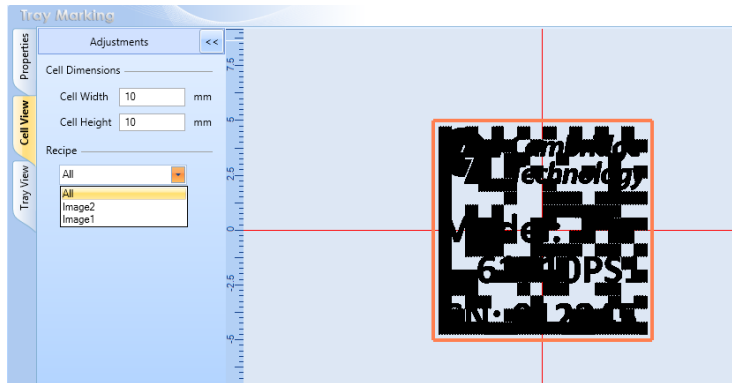

Figure 5 - Cell Recipe
- **Recipe:** a drop-down list use to view cell with various image compositions that were defined with the Selected Images property in the Tray. This dropdown list contains all the combinations of the image compositions made in the selected Images property and can be applied to any of the combinations of the cell to view and adjust the cell as seen **Figure 5 - Cell Recipe** (below)